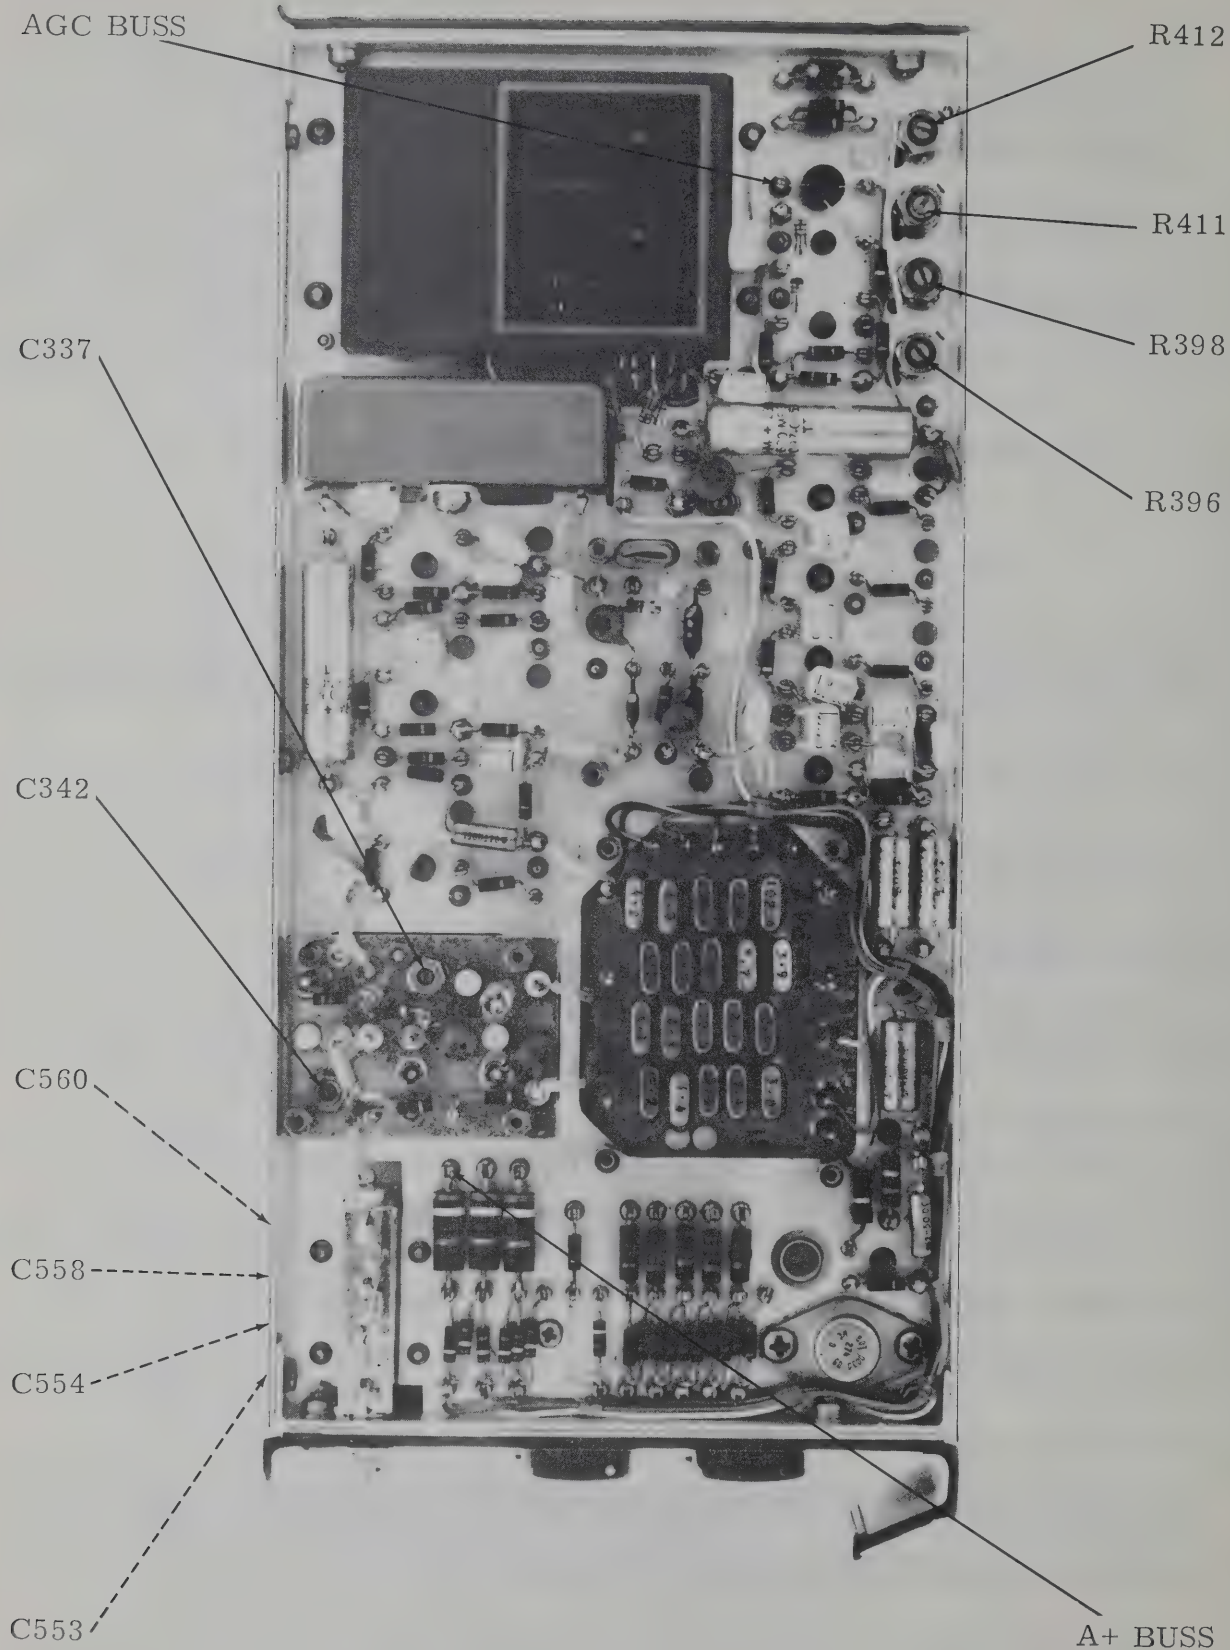

Figure 5-1. Glideslope Receiver Test Point and Adjustment Locations
- b. Connect the VTVM between chassis ground and the +16 volt (A+ bus), figure 5-1.
- d. Connect the VTVM between chassis ground and the AGC bus (green test point) figure 5-1.
- g. Adjust C337 (oscillator tuning), figure 5-1, to obtain a maximum indication on the VTVM. Adjust C342, (tripler tuning), to obtain a maximum indication on the VTVM.
- h. Sequentially adjust C553, C554, C558, and C560 (preselector), figure 5-1, to obtain a maximum indication on the VTVM.
- b. Connect the oscilloscope across R396 (Sens Set), figure 5-1.
- c. Adjust R398 (AGC Set), figure 5-1, to obtain a 1-volt peak-to-peak indication on the oscilloscope.
- g. Adjust R411 (centering), figure 5-1, to obtain a 0 indication on the DEVIATION METER.
- k. Set the 232-A TONE RATIO to zero (0). Observe that DEVIATION METER indication is within 5% of standard deflection of zero (0).
- l. Set the 232-A TONE RATIO to zero (0). Observe that the FLAG CURRENT METER indication is $325\mu\text{a} \pm 20\mu\text{a}$.